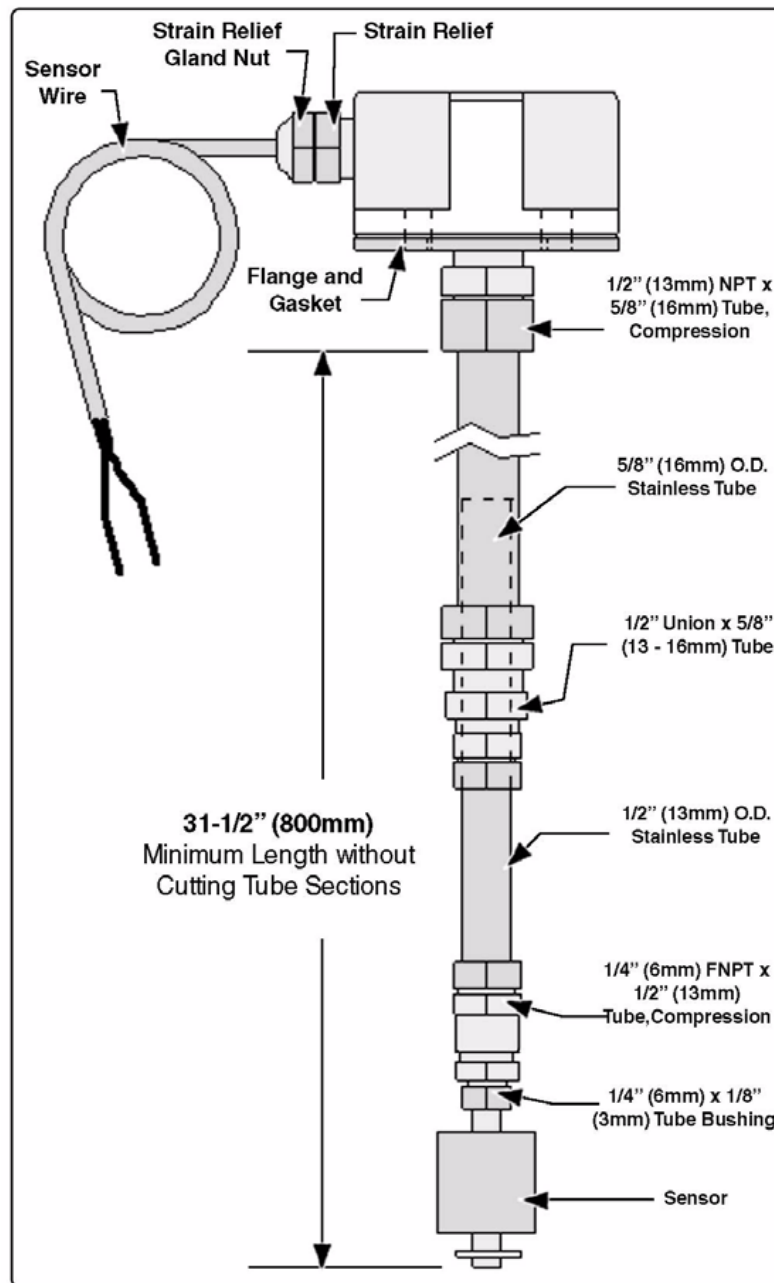

Figure 42: Top Mount Low Level Sensor Assembly
6. Adjust the telescoping section until the desired length is achieved as measured from the bottom of the flange to the bottom of the sensor. Tighten the compression fittings on the union to lock length setting (see Figure 42: **Top Mount Low Level Sensor Assembly**).
Certain applications may require the top mounted sensor to be shorter than factory length (see Figure 42: **Top Mount Low Level Sensor Assembly**).
8. Install and tighten the 1/2" compression nut (see Figure 42: **Top Mount Low Level Sensor Assembly**).